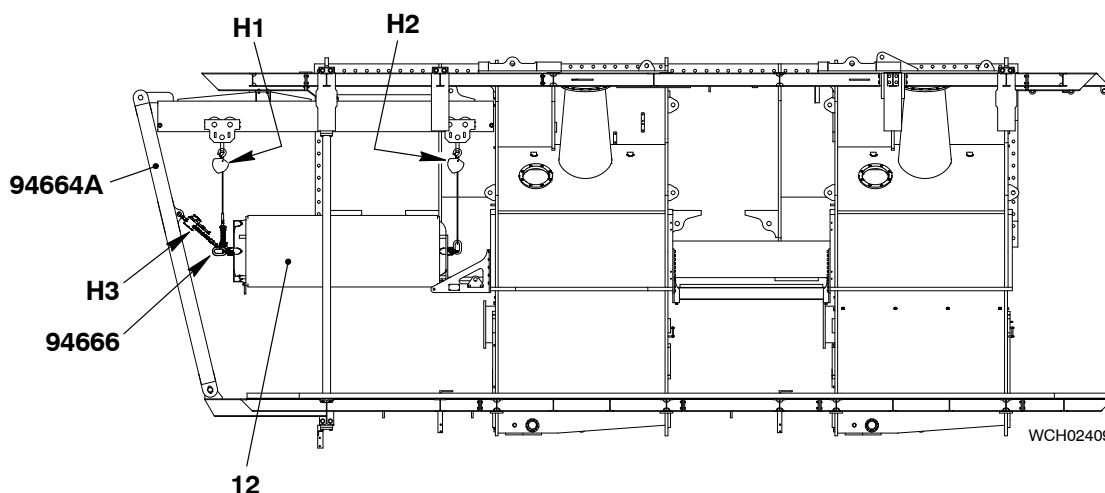

Fig. 11
- 14) Attach the double-chain slings (94666) to the swivel lugs (94666) on the front and rear of the SAC (12).
- 15) Attach the front chain block (H1, Fig. 11) to the double-chain sling (94666).